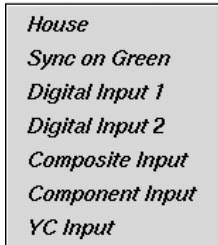

Figure C-15 Selecting Genlock Sync Source
4. In the Genlock Sync menu of the Video Drain section of the control panel, select the format that matches your equipment, as shown in Figure C-15.